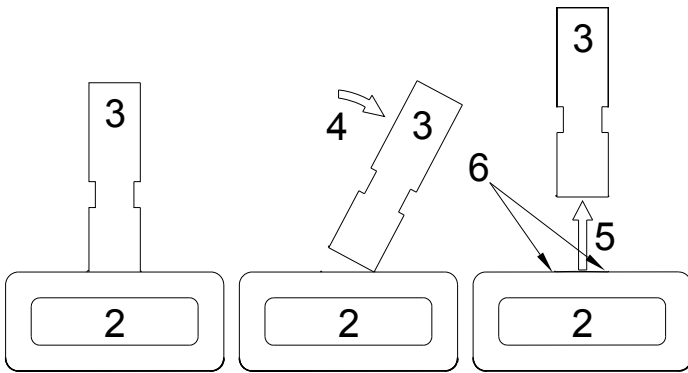

Figure 39
Remove the damaged tab by holding firmly to the electrode body (2) and tab (3). Pull, or rock (4) the tab to one side until it breaks free of the RTV, and lift the tab free of the electrode body (5) (**Figure 39**).